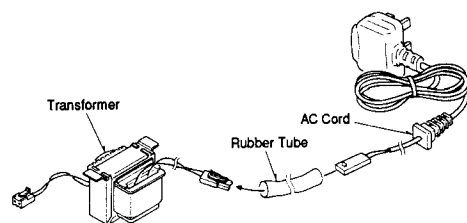

Figure 43
- (1) Connect AC cord with transformer as shown in Figure 43.